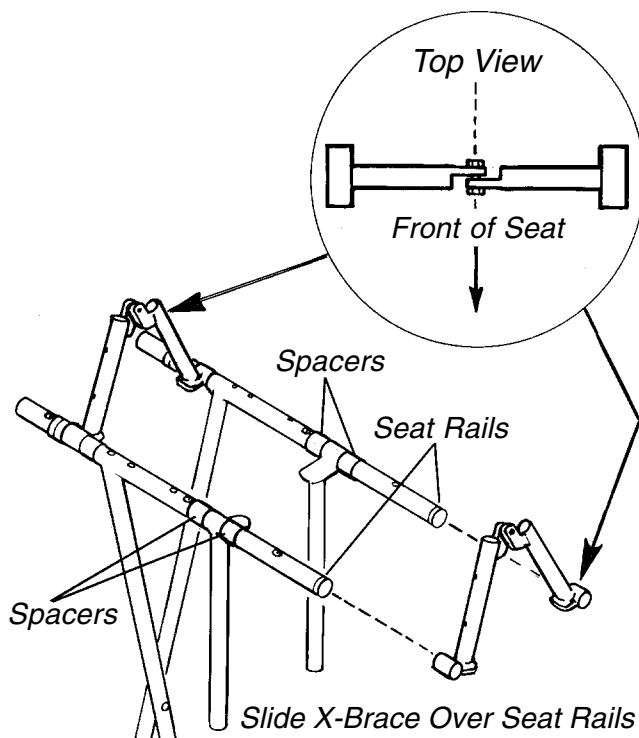

FIGURE 5 - ASSEMBLY OF THE FRONT X-BRACE
19. Slide the other X-Brace assembly over the front of the seat rails (FIGURE 5).